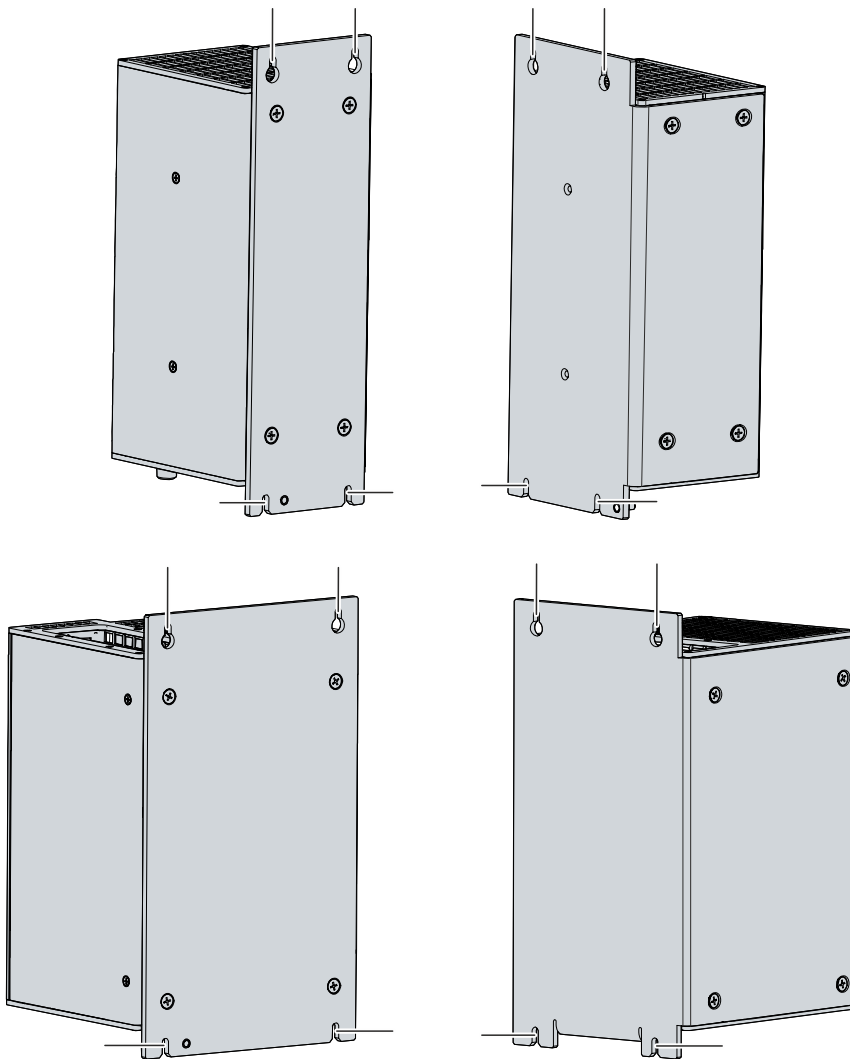

Fig. 24: Dismantling the control cabinet
You now have access to the battery (1) and storage media (2) (see fig. 24).